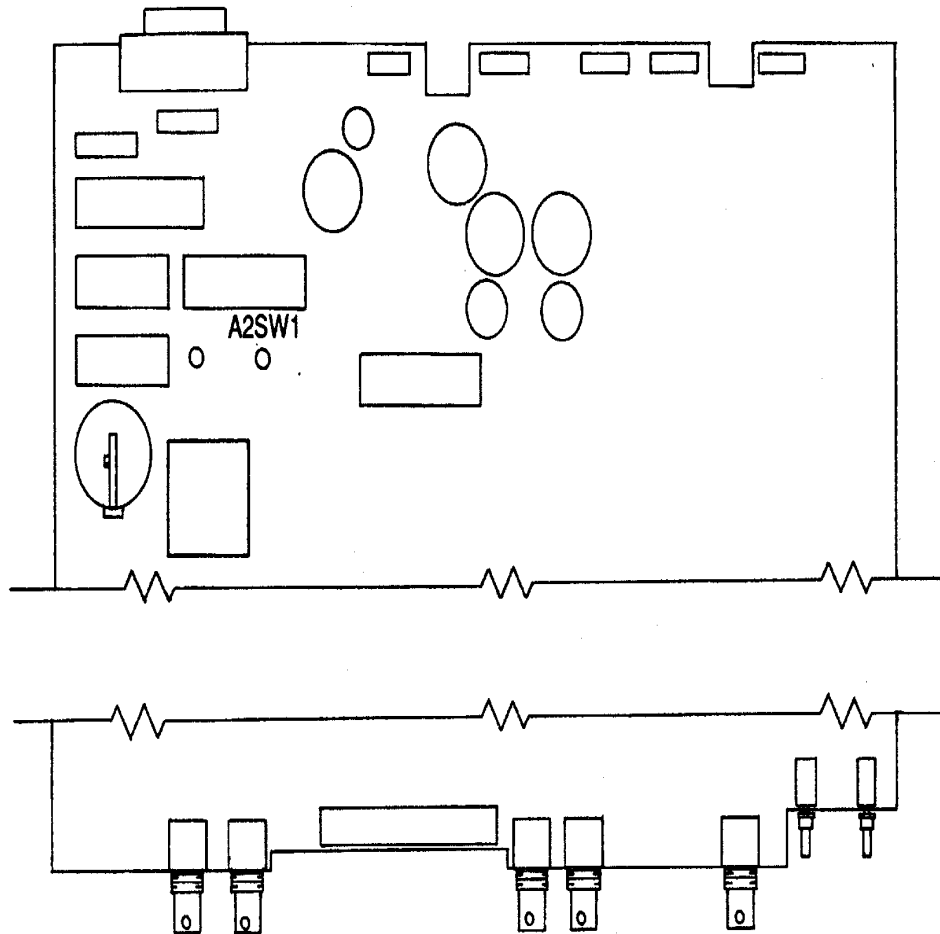
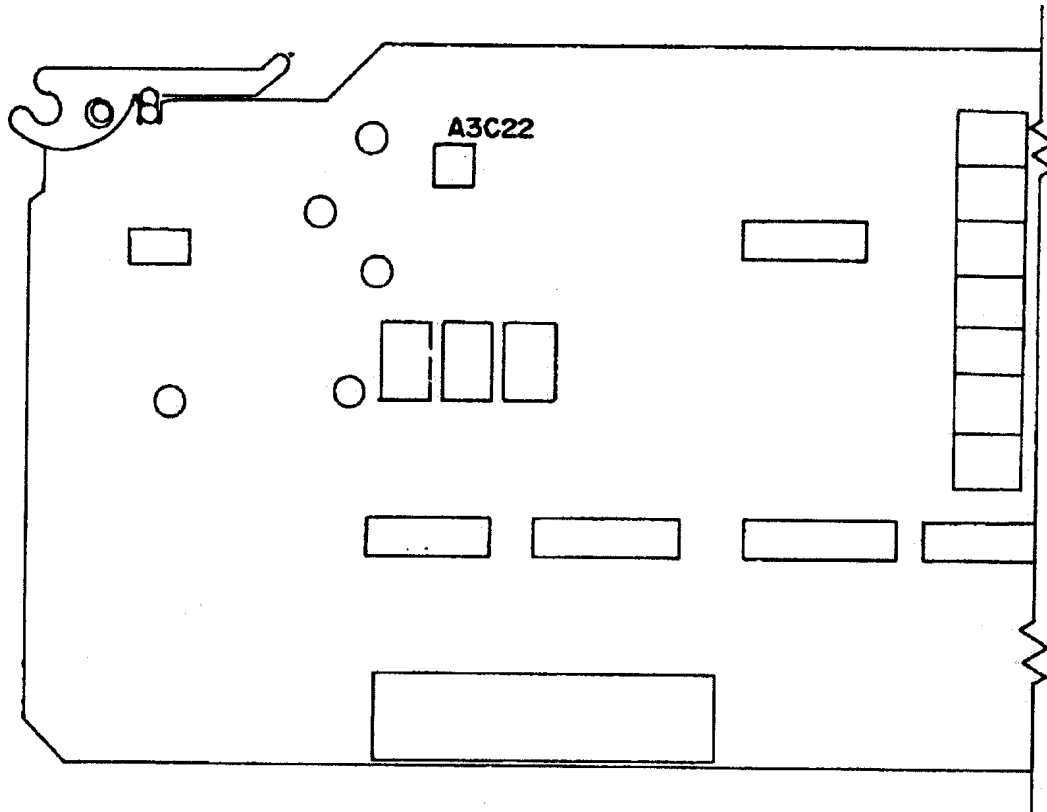

Figure 2. A2 motherboard.
Figure 3. A3 output circuit card adjustment location.
(3) Set **POWER** switch to **ON**.
(4) Press and hold (down) A2SW1 (fig. 2) and then press **CALIBRATE** pushbutton.
(5) Observe display indication of **WVTK SN X, XXX, XXX** or **WVTK SN 0**.
(6) Press **CURSOR** \updownarrow pushbutton and allow enough time for calibrating mode to complete.
- (7) Observe display indication of **ARMY SN X, XXX** or **ARMY SN 0**.
- (8) Repeat (6) above observing display indication of **PEAKING C22**.
- (9) Connect **UNBALANCED** output to oscilloscope input, using cable and a 50Ω feedthrough termination.
- (10) Adjust A3C22 (fig. 3) for a peak-to-peak aberration of less than 270 mV displayed on oscilloscope (R).
- (11) Press **CALIBRATE** pushbutton and verify display indicates **CALIBRATION OFF**.
- (12) Disconnect equipment setup and reinstall top cover.
- (3) Position **POWER** switch to **ON**.
- (4) Press and hold (down) A2SW1 (fig. 2) and then press **CALIBRATE** pushbutton.
- (5) Press **CURSOR** \mathbb{H} pushbutton three times and observe display indication of **R33, 97, 64, VSINE XXX**.